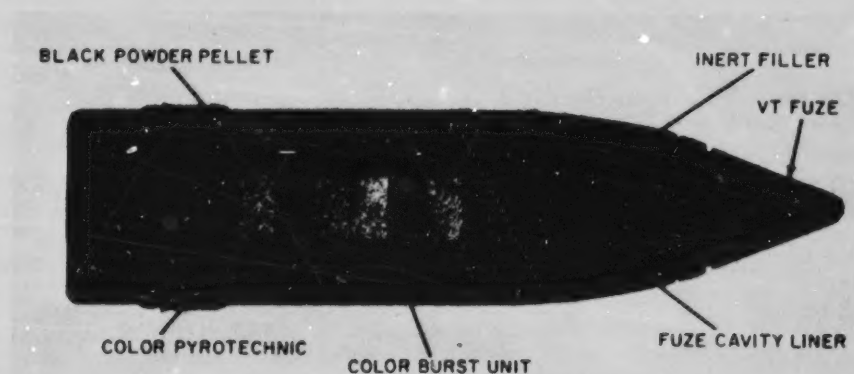

Figure 3-14.—Typical nonfragmenting projectile, sectional view.
d. Nonfragmenting (NONFRAG) projectiles (fig. 3-14) are a special type used for AA training exercises. The projectile is inert loaded, but does have a small black powder expelling charge. When activated by a VT fuze, the expelling charge will blow the base out of the projectile, producing a distinctive gray cloud. The projectile